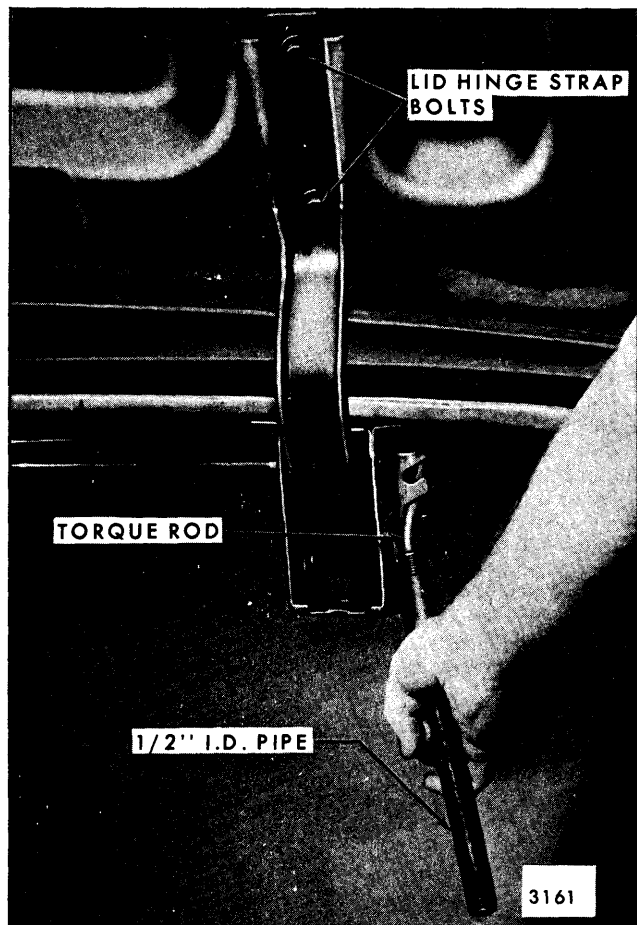
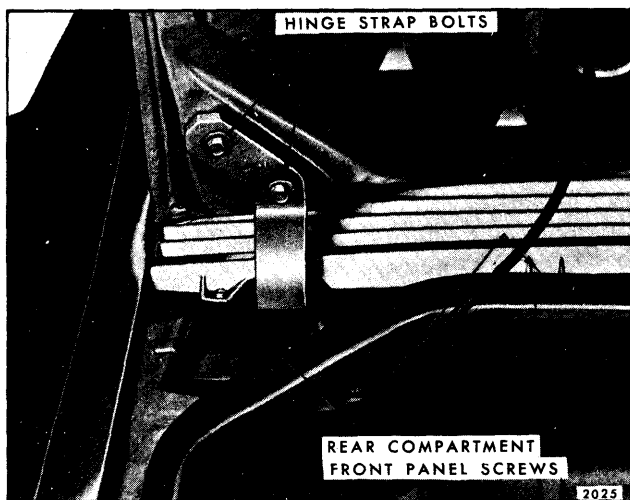

Fig. 8-1—Rear Compartment Lid Attachments - All "A, B, C, X" and Cadillac "E" Styles
Fig. 8-2—Rear Compartment Lid Attachments - Oldsmobile and Buick "E" Styles
5. With the aid of a helper, remove strap to lid attaching bolts and remove lid (Fig. 8-1 is typical of all styles except "E" body; Fig. 8-2 for "E" body styles).
1. Raise rear compartment lid and remove lower screws of panel (Refer to Fig. 8-2).